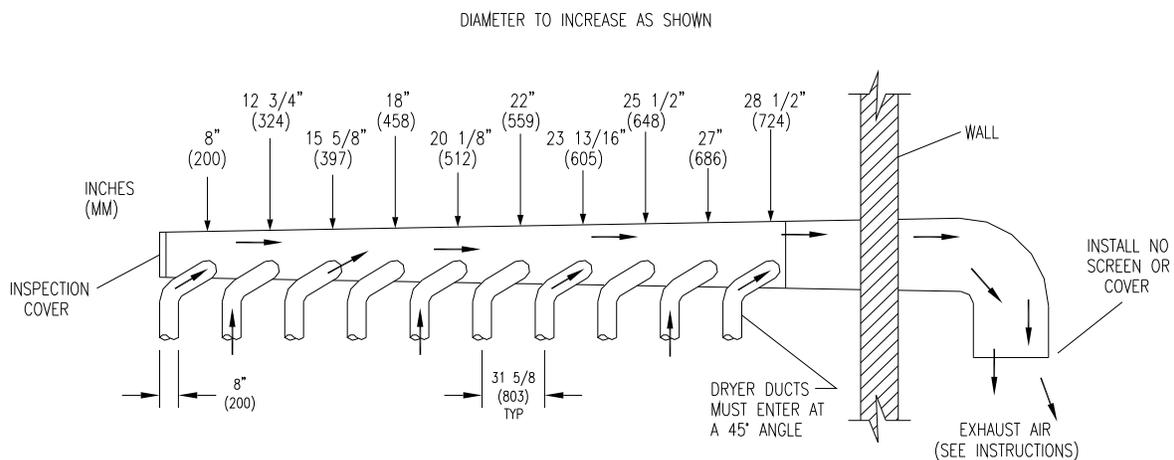

FIGURE 3- Dryer Exhausting Using A Main Discharge Duct.
6. EXHAUST INSTALLATION. (Refer to Figure 3) Exhausting of the dryer(s) should be planned and constructed so that no air restrictions occur. Any restriction due to pipe size or type of installation can cause slow drying time, excessive heat, and lint in the room.
Installation of several dryers, where a main discharge duct is necessary, will need the following considerations for installation (see Figure 3). Individual ducts from the dryers into the main discharge duct should be at a 45-degree angle in the direction of discharge airflow.
**NOTE:** Never install the individual ducts at a right angle into the main discharge duct. The individual ducts from the dryers can enter at the sides or bottom of the main discharge duct. Figure 3 indicates the various round main duct diameters to use with the individual dryer ducts. The main duct can be rectangular or round, provided adequate airflow is maintained. For each individual dryer, the total exhausting (main discharge duct plus duct outlet from the dryer) should not exceed the equivalent of 14 ft. (4.25 m) and two elbows. The diameter of the main discharge duct, at the last dryer, must be maintained to exhaust end.